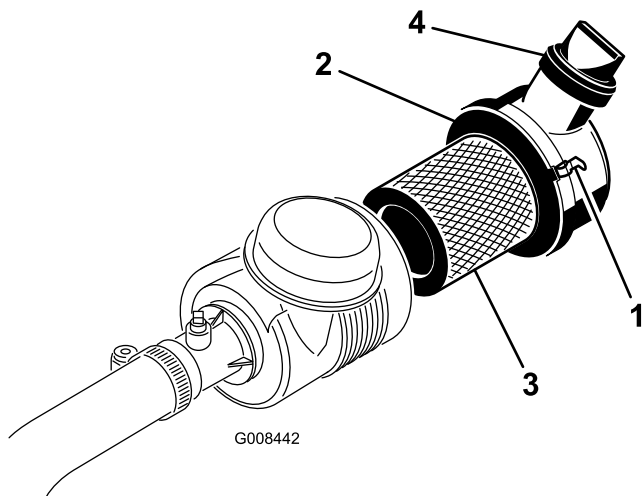

Figure 32
1. Release the latches that secure the air-cleaner cover to the air-cleaner body (Figure 32).
7. Ensure that the latches secure the cover to the body (Figure 32).